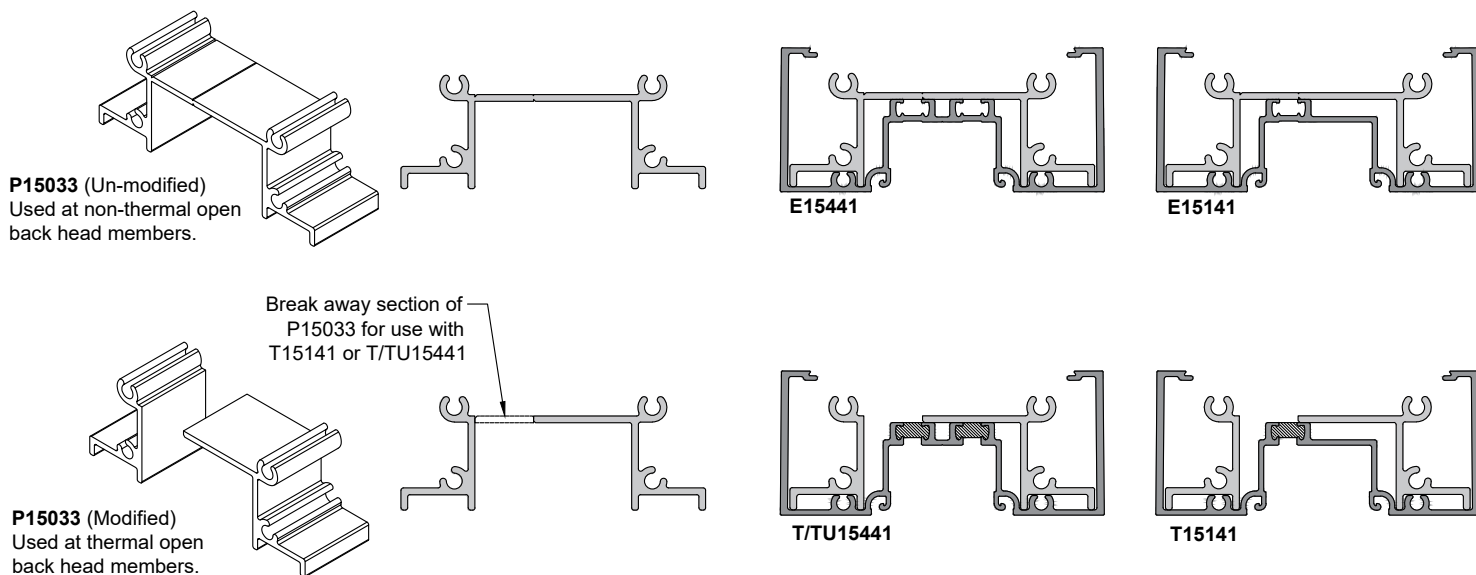

FIG. 1.
- B. **SEE Fig. 1 & Fig. 2** for instructions on modifying for the various horizontal sections